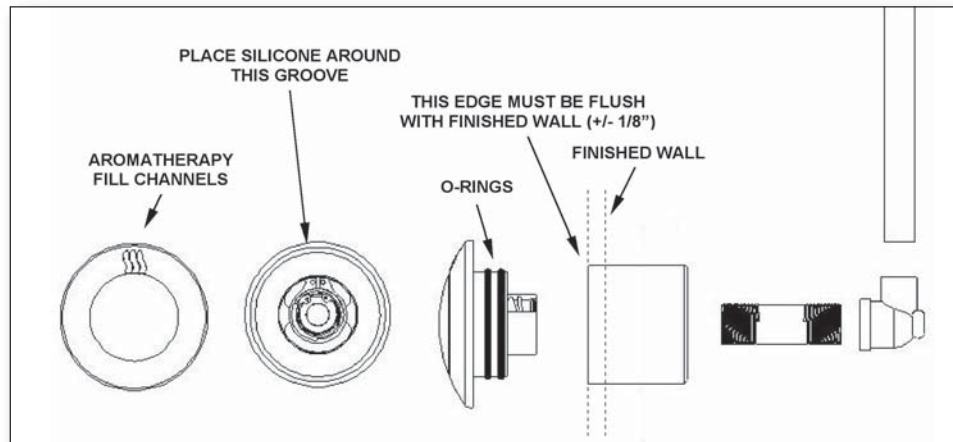

Figure 5
3. When finalizing installation, install the Steamhead into the housing, making sure that the aromatherapy fill channels are facing upwards; see **Figure 5**. To ensure that no moisture gets behind the Steamhead and into the wall, place a generous bead of waterproof silicone around the Steamhead, using the machined groove (located on the back of the Steamhead) as a guide. Be sure there isn't any debris within the housing, and that the two O-rings are in place on the Steamhead. Slide the Steamhead into the housing until the Steamhead is tight against the finished wall. You may need to wipe away any excess silicone. Use **Figure 5** as a reference to these steps.